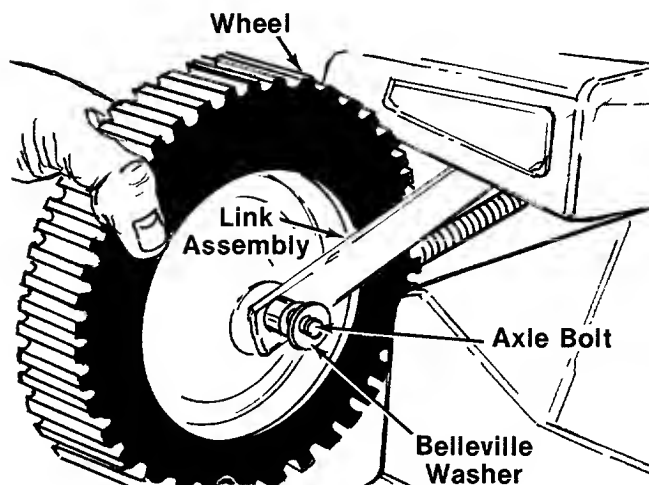

FIGURE 13.
4. With an adjustable wrench, remove the axle bolt, front wheel and belleville washer. See figure 13.